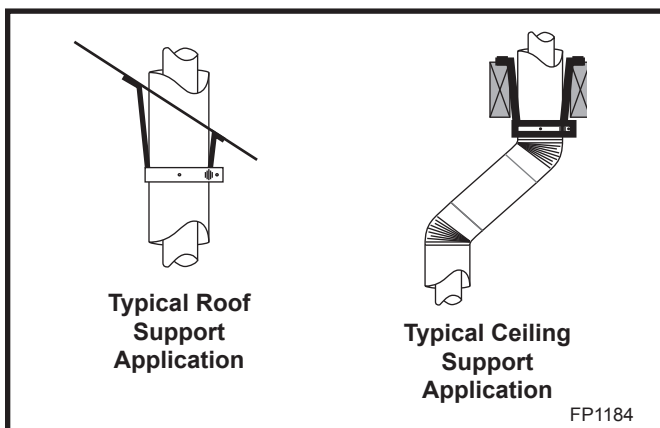

Fig. 25 Venting supports.
- 7DVCS supports offsets. (Fig. 25) This application will require that you first determine the roof pitch and use the appropriate starter kit. (Refer to Venting Components List)
7. Install roof support (Fig. 25) and roof flashing making sure upper flange is below the shingles. (Fig. 28)